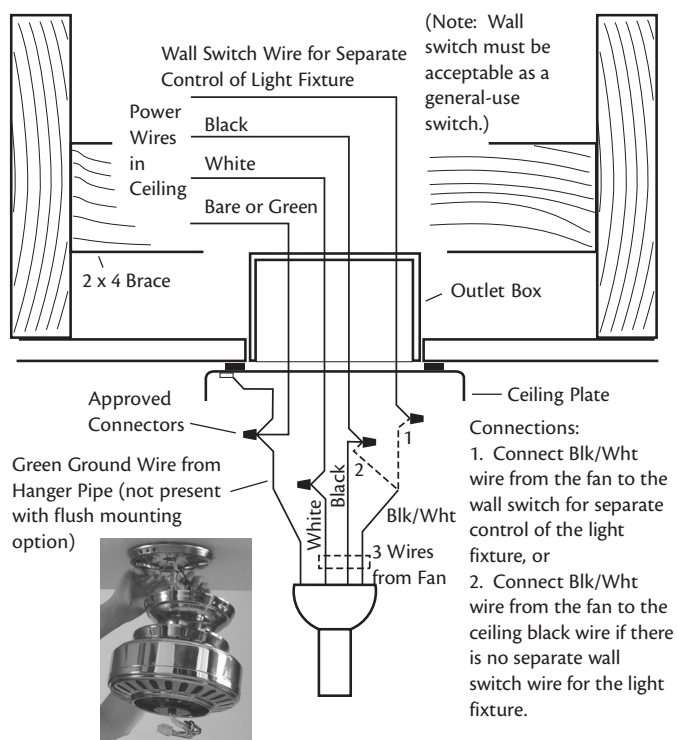

Figure 18 - Wiring the fan
2. You can use either one or two wall switches to control the fan and/or lights separately. Use connection 1, as described in Figure 18, to
Use connection 2, as described in Figure 18, if there is no separate wall switch power wire for the light fixture.
3. Connect the wires as shown in Figure 18. To connect the wires, twist the bare metal leads together. Place a wire nut over the intertwined length of wire and twist clockwise until tight as.